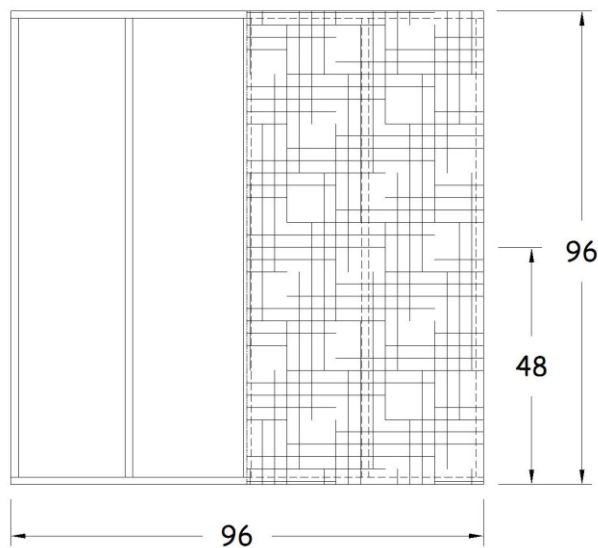

Figure 22-2. Floor Sheathing.
2. Cover half of the floor with one 4'x8' sheet of $\frac{3}{4}$ " treated plywood, flush with the outside edge of one of the end plates (see Figure 22-2). Secure each corner with one 8d nail. Then attach the rest of the plywood to the end plate, joists and between joists with $1\frac{5}{8}$ " deck screws, spacing them 12" apart.